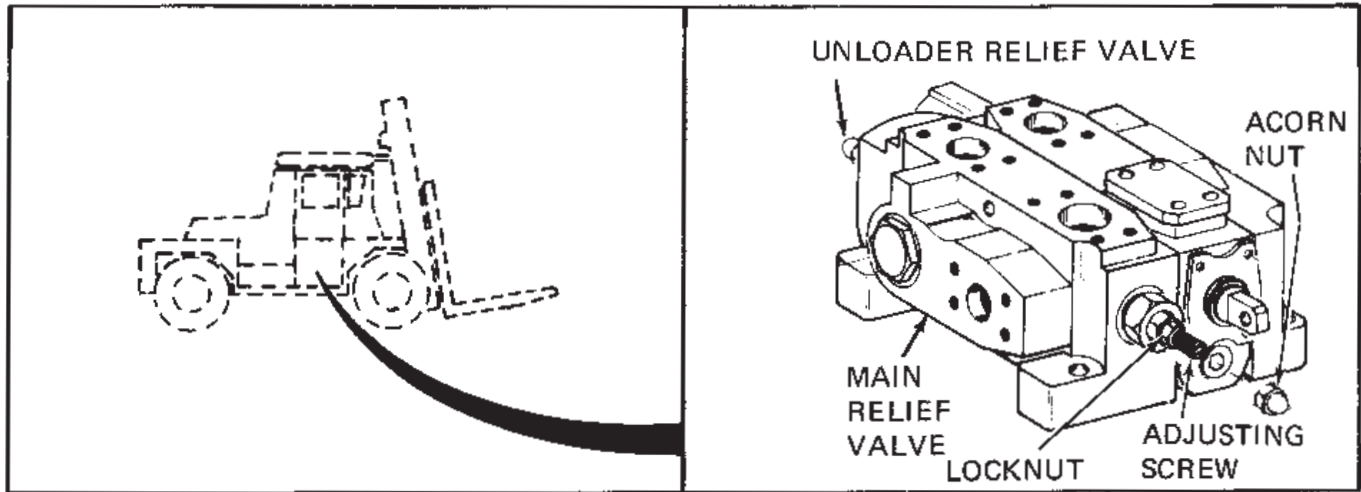

Figure A-2. Lift and Unloader Valve Location and Adjustment
b. Remove the acorn nut (see Figure A-2).
- b. Remove the acorn nut from the unloader relief valve (see Figure A-2).